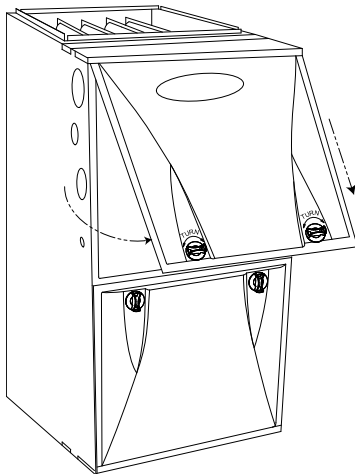

Fig. 10 – Remove Main Furnace Door (Upflow Configuration)
4. Remove the main furnace door (see Fig. 10).
- Remove main furnace door (see Fig. 10).